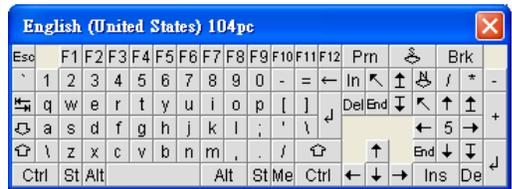

Figure 10-9 Soft Keyboard
- Soft Keyboard: A virtual keyboard is provided for easy input. It also provides localized keyboard mapping. Please refer to Figure 10-9.